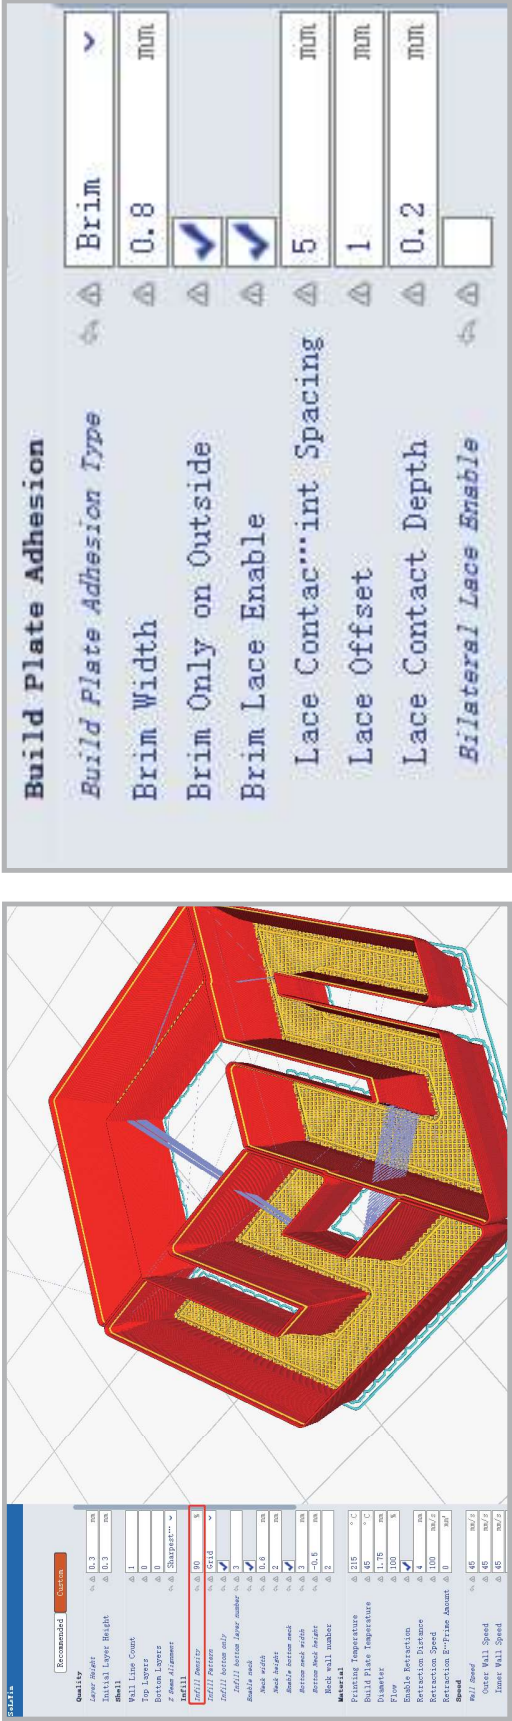

Figure1 –44
Three types of attachments are available, including single skirt, side skirt and raft, which have a great effect in anti-warping (Figure 1–45).
- Side skirt: also known as anti-warping fancy border, which could adjust parameters such as fancy border type, inside/outside type, times, spacing, offset depth, single/double fancy border according to requirements (Figure 1–44).